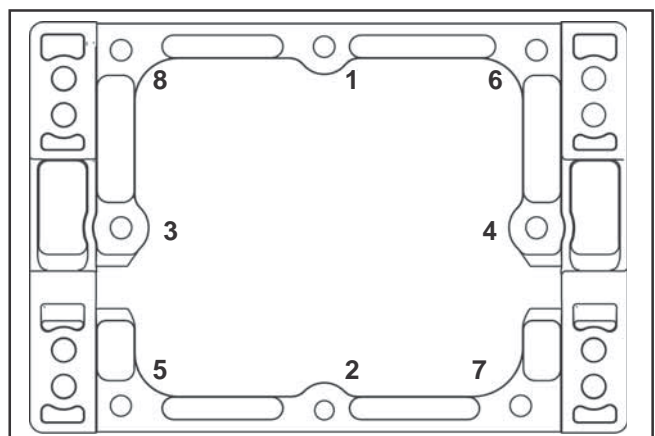

Figure 10-36. Oil Reservoir Torque Sequence.
3. Install the oil reservoir onto the crankcase and temporary alignment pins. The flywheel side is indicated on the cover. Install and finger tighten the screws. Remove the two alignment pins and install the two remaining screws. Torque the screws in the sequence shown in Figure 10-36 to **24.4 N·m (216 in. lb.)**.